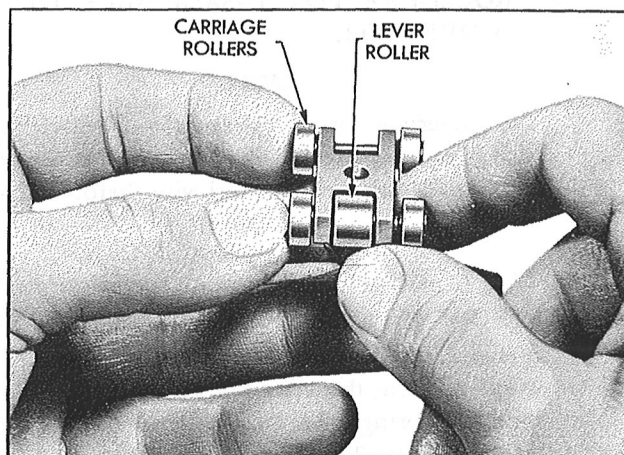

Figure 235—Assembly of Rollers to Carriage
*Step 4.*—Assemble the carriage rollers and the lever roller to the governor carriage using the roller pins, as shown in Figure 235.